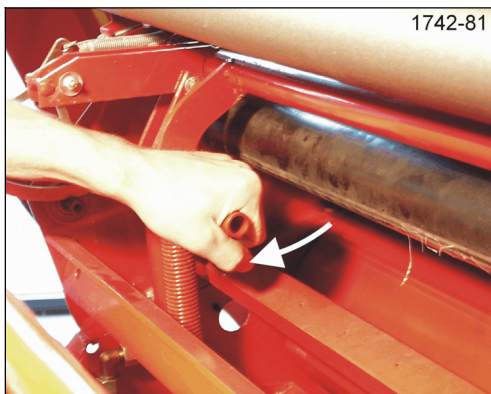

Figure 32
- ❑ If a wrapping process has not been completely executed (e. g. because the net roll depleted during the wrapping process): pull the grip of the knife carrier strongly forward against the spring tension (Figure 32). The counting segment for the net length is reset to its starting position.